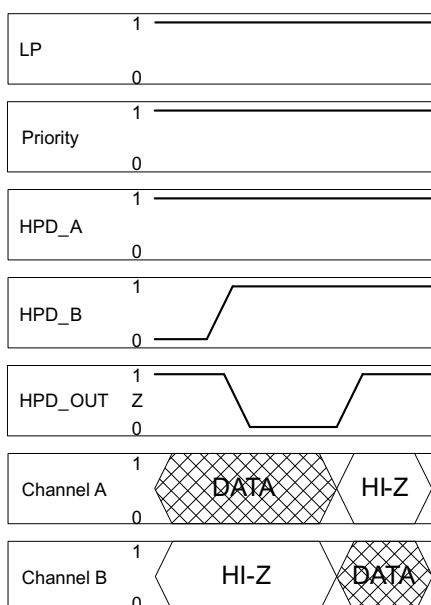

Figure 44.
- Case two: In this case the HPD input that is initially HIGH is not the port with priority. When the HPD input of the port that has priority goes high, the HPD output is forced LOW for some time in order to simulate an unplug event to the source device. The duration of this LOW output is defined as $t_{T2(HPD)}$. If the HPD input of the port with priority pulses LOW for a short duration while the $t_{T2(HPD)}$ timer is counting down, the timer is reset. Once this time has passed the switch switches to the port with priority and the output HPD once again follows the state of the newly selected channel's HPD input (see Figure 44).